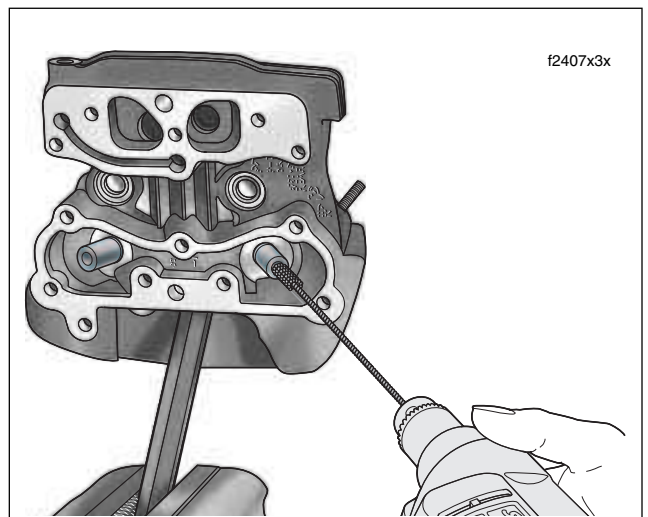

Figure 3-74. Hone Valve Guide Bore
- d. Activating the drill, move the entire length of the finishing stone arrangement forward and backward through the bore for 10 to 12 complete strokes. See Figure 3-74. Work for a crosshatch pattern of approximately 60°.